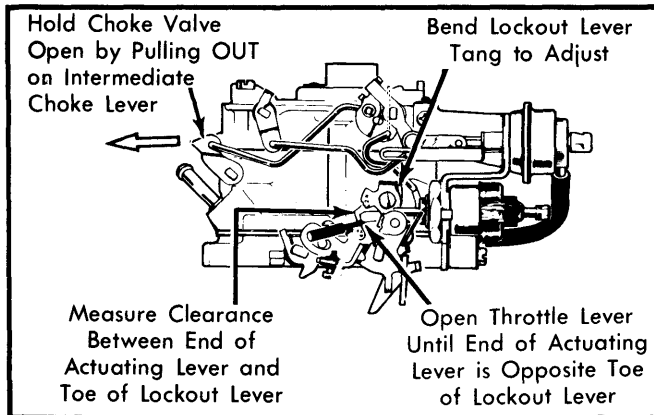

Fig. 10 Adjusting Secondary Throttle Lockout
1) Hold choke valve wide open by pulling out (counter-clockwise) on intermediate choke lever. See Fig. 10.